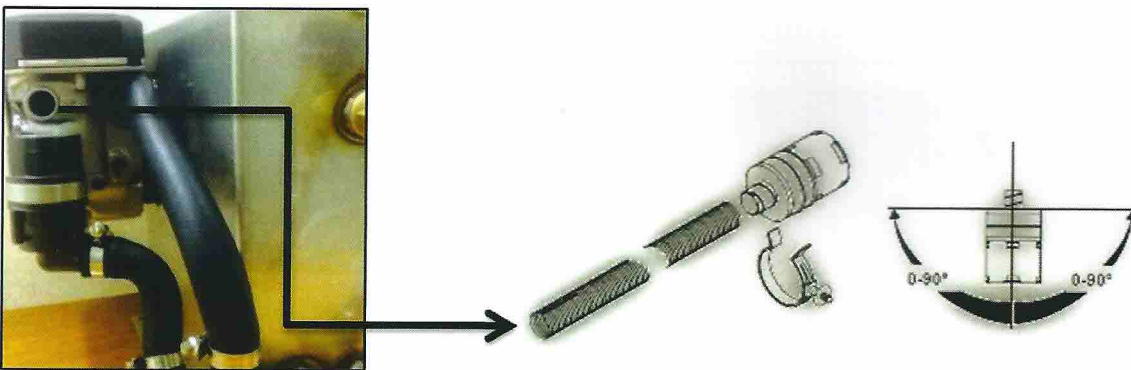

Fig 7 - Combustion filter, tube and clamps are all supplied in the kit.
- 4.2 Connect the combustion air silencer to the other end of the combustion air tube (Fig. 7)